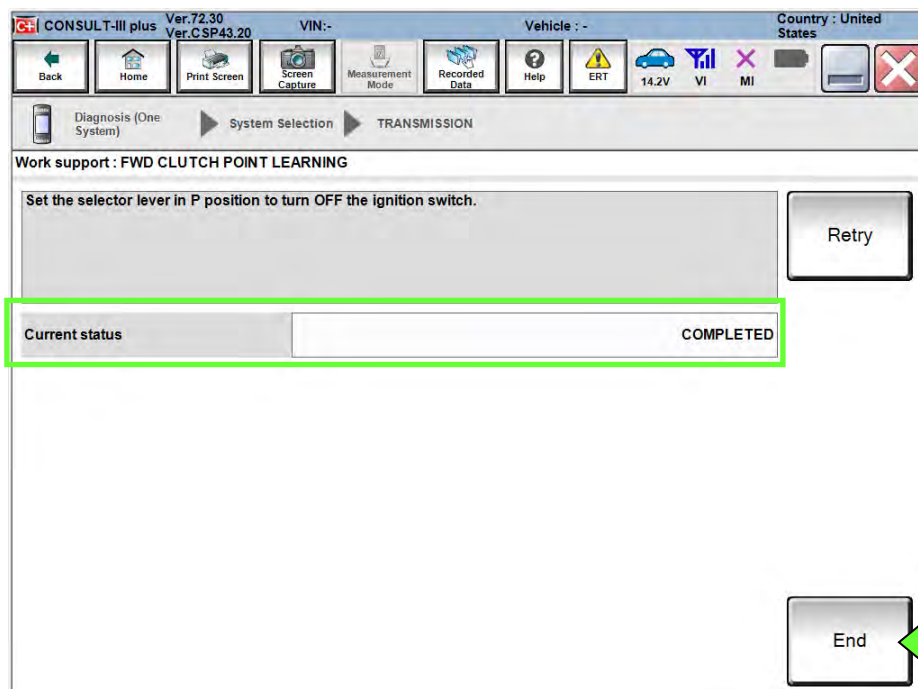

Figure 22J
12. When the screen in Figure 22J is displayed, select **End**.